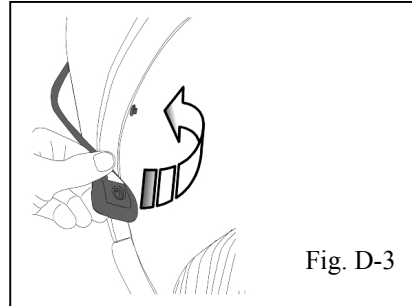

Fig. D-3
- ➔ 2. Attach snap at top of wheel well to previously installed hardware (Fig. D-3.) Repeat on other side of the vehicle.